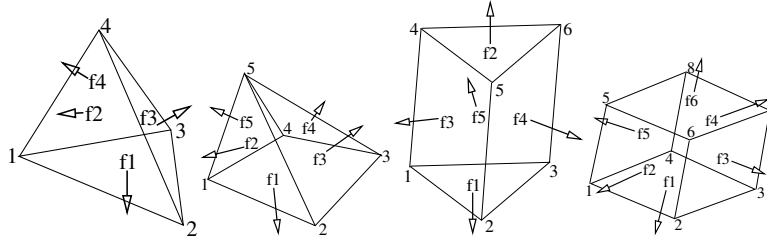

Figure 4.1: Mesh element types in Parmec.
- **elements** - list of elements: $[e1, n1, n2, \dots, ne1, me1, e2, n1, n2, \dots, ne2, me2, \dots]$, where $e1$ is the number of nodes of the first element, $n1, n2, \dots, ne1$ enumerate the element nodes, and $me1$ is the material number. Similarly for the second and all remaining elements. Supported numbers of nodes per element are 4, 5, 6, and 8 for respectively *tetrahedron*, *pyramid*, *wedge*, and *hexahedron*, cf. Figure 4.1.